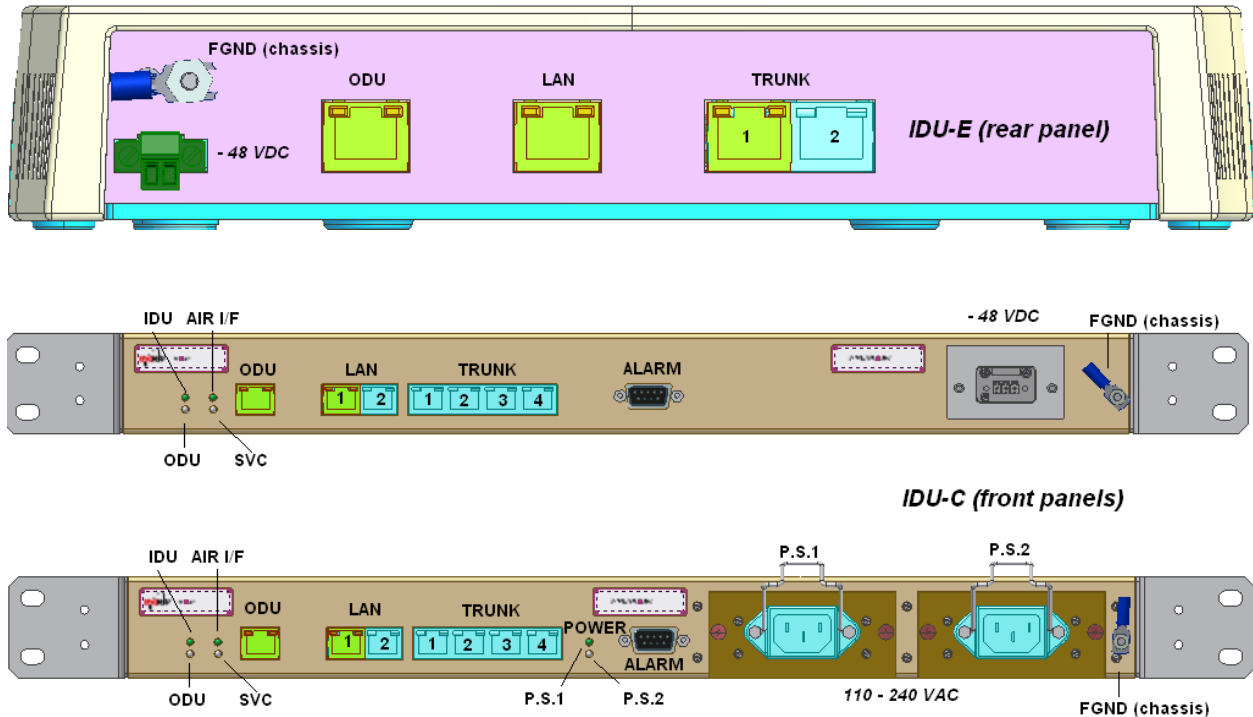

Figure 2-2. IDUs connector panels
2. Connect the ODU cable to the RJ-45 connector on the IDU panel designated WAN. *Figure 2-2* illustrates a typical panel of the IDU-E and IDU-C.